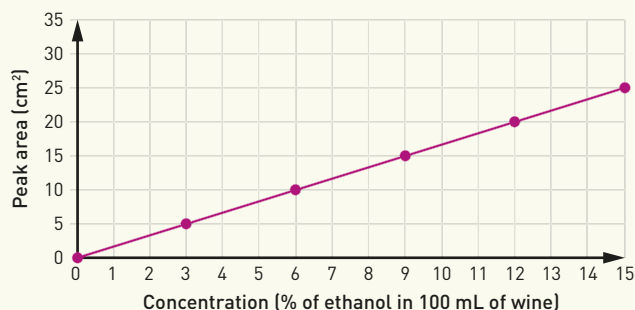

FIGURE 15 A calibration curve for the concentration of ethanol in wine.
- 5** A calibration curve is developed to measure the ethanol content in a bottle of wine. The resulting graph is shown in Figure 15.